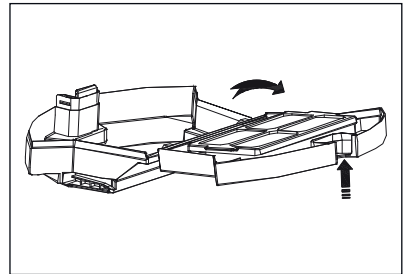

Fig. 8
- 2) Press the release button **13** of the dust container **14**, and fold it open (see Fig. 8).